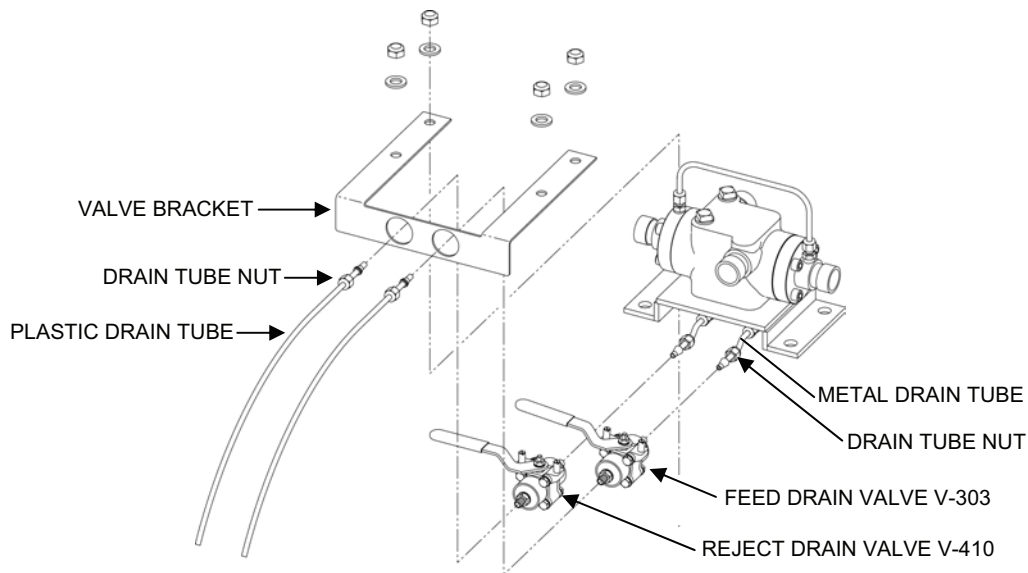

Figure 15. Turbocharger Feed or Reject Drain Valve V-303 / V-410 Replacement.
Replace Turbocharger Feed Drain Valve V-303 or Reject Drain Valve V-410 as follows (see Figure 15):
- b. Note the proper orientation of the valve (see Figure 15).